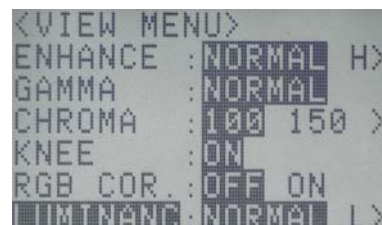

Figure 3-65 LUMINANC(VIEW MENU)
- 2) Press up/down keys   to select LUMINANC. (Fig.3-65)